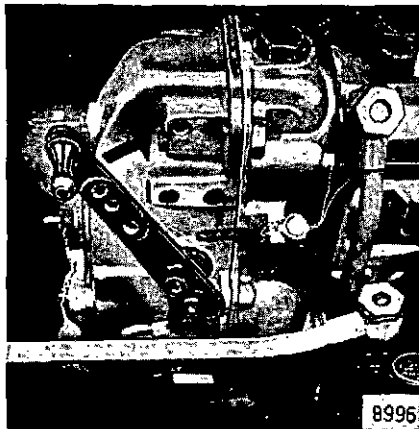

Fig. 3
2. Move speed control (Fig. 3) to about quarter speed by hand or foot (arrowed direction).